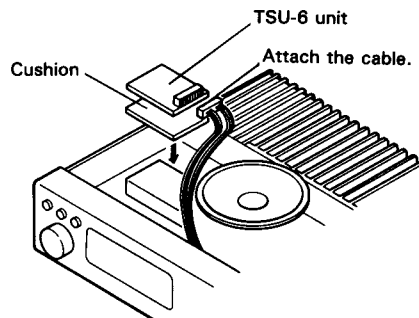

Fig. 2
3. Remove the backing from the small cushion provided with the TSU-6 and attach it to the back of the TSU-6 as shown in Fig. 2.
2. Attach the three cables from the DRU-1 as shown in Fig. 2.